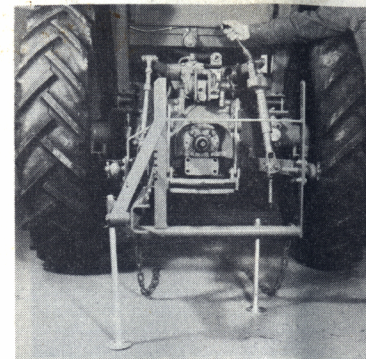

Fig. 5
- Attach the frame, standing on its supporting legs, to the hydraulic arms of the tractor, see Fig. 5. Set the hydraulic arms so that the frame is positioned horizontally.